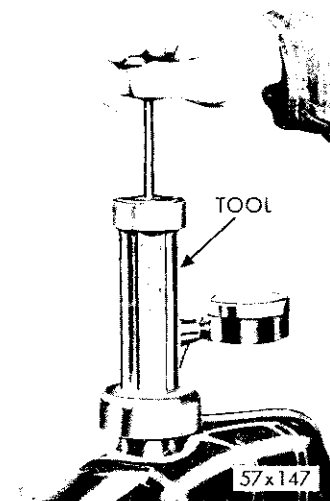

Fig. 11—Checking the Cooling System for leaks
- (2) Attach Tester Tool C-3499 to the radiator, as shown in Figure 11 and apply 15 pounds pressure. If pressure drops check all points for exterior leaks.